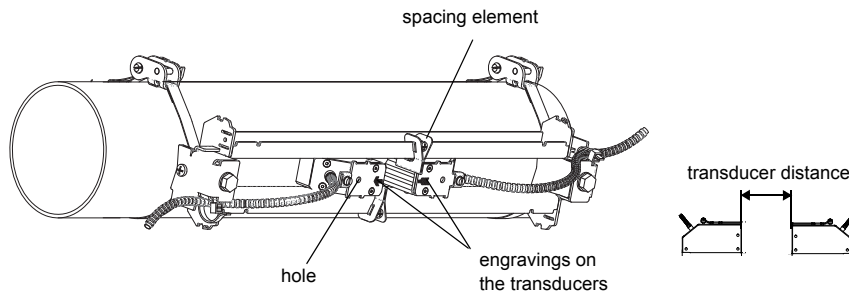

Fig. 9.45: Transducers in the rail (spring clip not shown)
- Position the transducers on the rail in such way that the engravings on the transducers form an arrow. The transducer cables show in opposite directions (see Fig. 9.45).
- Adjust the transducer distance displayed by the transmitter (see section 11.6 and Fig. 9.45).
- Fix the transducers by tightening the tensioning screws slightly. The end of the screw has to be placed above the hole in the transducer (see Fig. 9.45).
- Fix the spacing element on the rail to mark the transducer position (see Fig. 9.45).